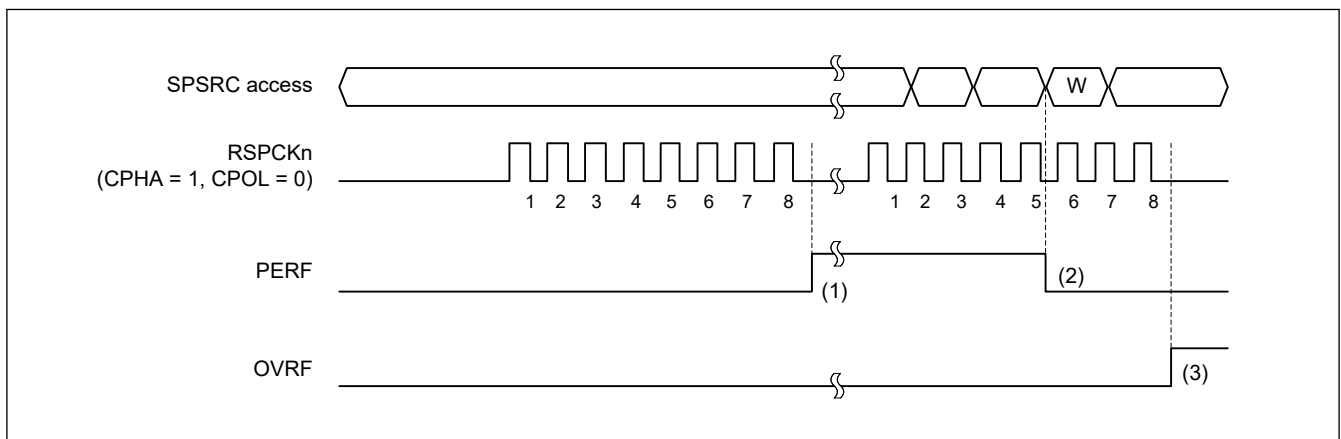

Figure 43.52 Operation example of the OVRF and PERF flags
Figure 43.52 shows an example of operation of the OVRF and PERF flags. The SPSR access shown in Figure 43.52 indicates the condition of access to the register, where W denotes a write cycle, and R a read cycle. In this example, full-duplex serial communication is performed while the SPCR.SPPE bit is 1. The SPI performs an 8-bit serial transfer when SPCMDm.CPHA bit is 1 and the SPCMDm.CPOL bit is 0. The numbers given for RSPCKn in the waveform represent the number of RSPCK cycles, such as the number of transferred bits.
The operation of the flags at timings (1) to (3) in Figure 43.52 is as follows: